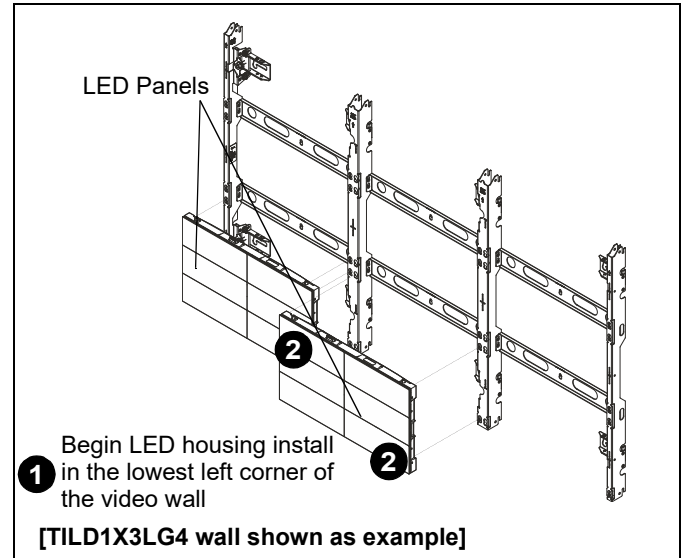

Figure 23
1. Install the first LED housing in the lowest left-hand corner of the video wall by aligning mounting buttons on the housing with the mounting holes on the wall mount. (See Figure 23)